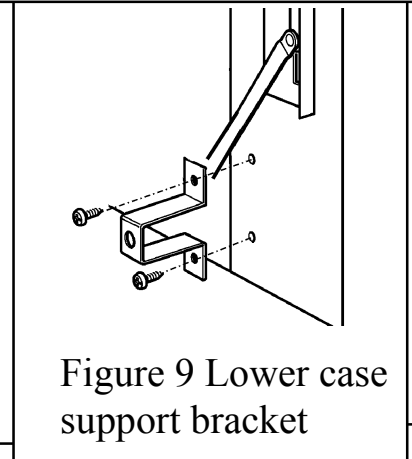

Figure 9 Lower case support bracket
3. Fit the two lower case support brackets to the convection box side flanges. See figure 9.